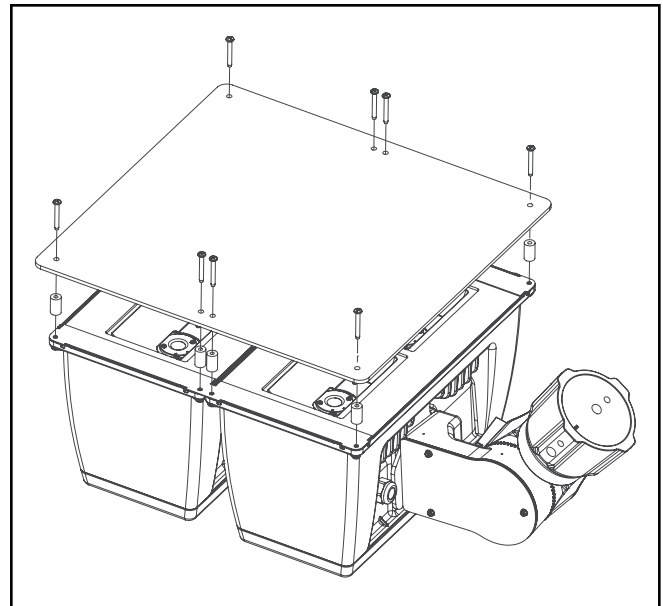

Figure 6.
Vandal Shield (Figure 6.)
1. Loosen and remove the existing (8) 10-24 Philips head screws on the face of the fixture.
2. Align (8) 7/8" long spacers with existing holes.
3. Use (8) 10-24 x 1-1/2" screws to secure vandal shield on top of fixture. (Figure 6.)